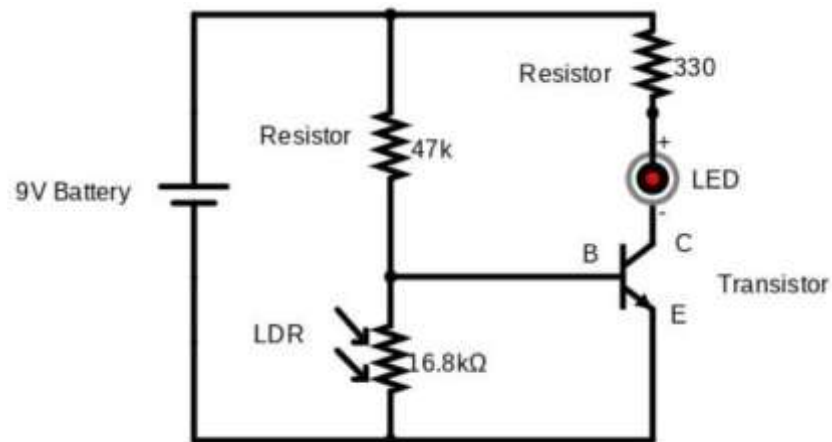

Fig.1 Circuit Diagram for Automatic Street Light using LDR
2. Connect positive and negative terminal of the battery as shown in the fig.1.
4. Connect each components carefully as per the circuit fig.1.